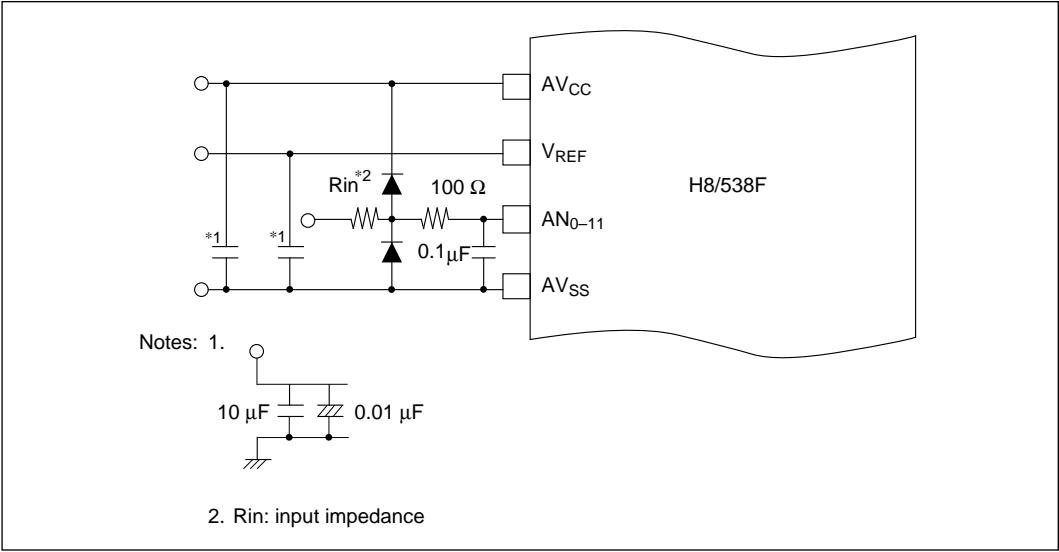

Figure 13-9 Example of Analog Input Protection Circuit
(5) Note on Noise: To prevent damage from surges and other abnormal voltages at the analog input pins (AN_0 to AN_{11}) and analog reference voltage pin (V_{REF}), connect a protection circuit like the one in figure 13-9 between AV_{CC} and AV_{SS} . The bypass capacitors connected to AV_{CC} and V_{REF} and the filter capacitors connected to AN_0 to AN_{11} must be connected to AV_{SS} . If filter capacitors like those in figure 13-9 are connected, the voltage values input to the analog input pins (AN_0 to AN_{11}) will be smoothed, which may give rise to error. The circuit constants should therefore be selected carefully.